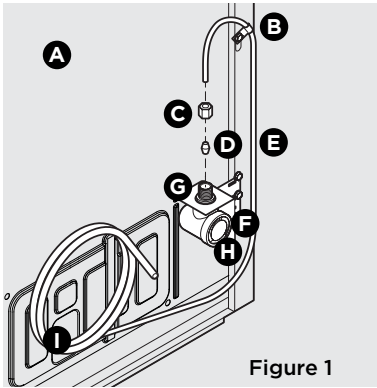
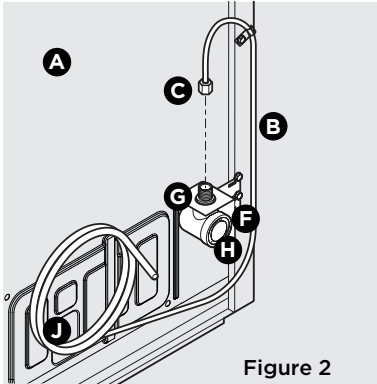

Figure 1
Figure 2
4. If you use **copper tubing** - Slide the brass compression nut and then the ferrule (sleeve) onto the water supply line. Push the water supply line into the water valve inlet as far as it will go (1/4"/6.4 mm). Slide the ferrule (sleeve) into the valve inlet and finger tighten the compression nut onto the valve. Tighten another half turn with a wrench; DO NOT overtighten. See Figure 1.
- The nut is already assembled on the tubing. Slide the nut onto the valve inlet and finger tighten the nut onto valve. Tighten another half turn with a wrench; DO NOT overtighten. See Figure 2.
B	Steel Clamp (Fig. 1: 1/4"; Fig. 2: 1/2")